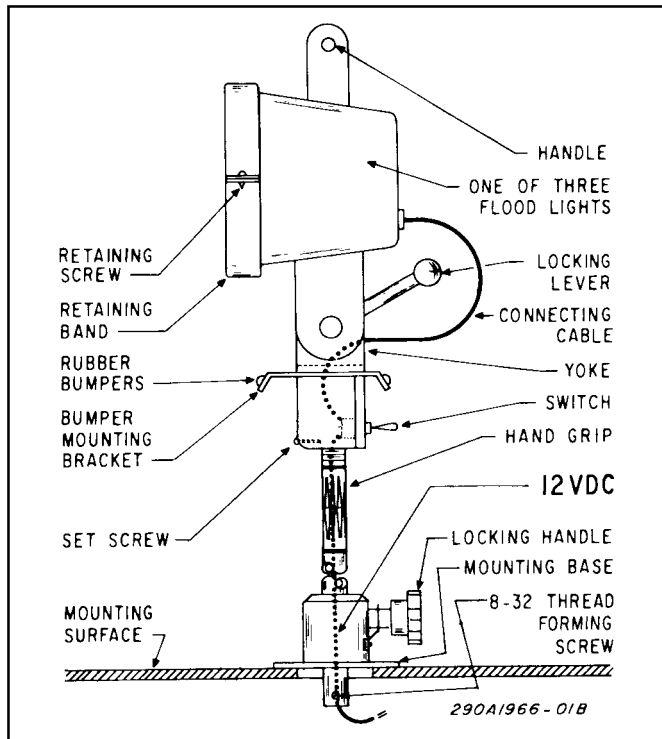

Figure 1.
3. Using the mounting base as a template, scribe four (4) drill position marks on the mounting surface. Remove the mounting base.
4. If the supplied 1/4-20 Hex. Hd. Mach. screws are to be threaded into the mounting surface, drill four (4) No. 8 holes at the position marks. Tap the holes with a 1/4-20 tap. If the mounting base is to be secured with the supplied 1/4-20 screws and nuts, use an H (.266") drill to drill four holes at the position marks.
5. Replace the mounting base on the pole. Thread the supplied #8-32 thread-forming screw into the hole in the end of the pole, as shown in figure 1.
8. Thread the pole into the floodlight assembly and tighten the set screw as shown in figure 1.